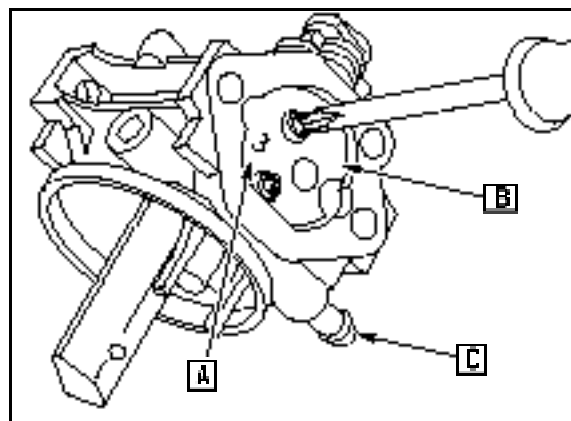

Fig. 85
10. Place choke plate (A) on choke shaft with stamped number(s) (B) facing opposite the fuel inlet (C). Attach with screws ([D] Fig. 85).